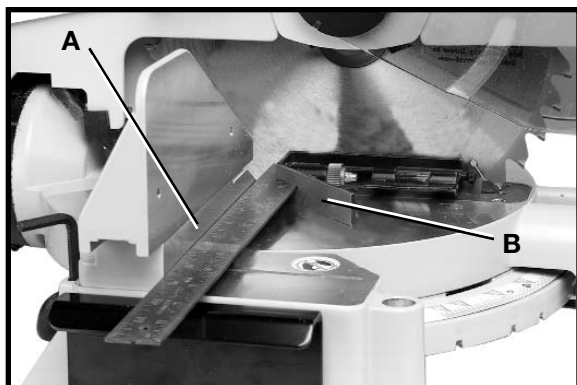

Fig. 20
If the fence (A) Fig. 20 is removed from the saw, adjust it after replacement so that it is 90 degrees to the blade as follows:
2. Place one end of the square (B) Fig. 20 against the fence (A) and the other end against the blade.